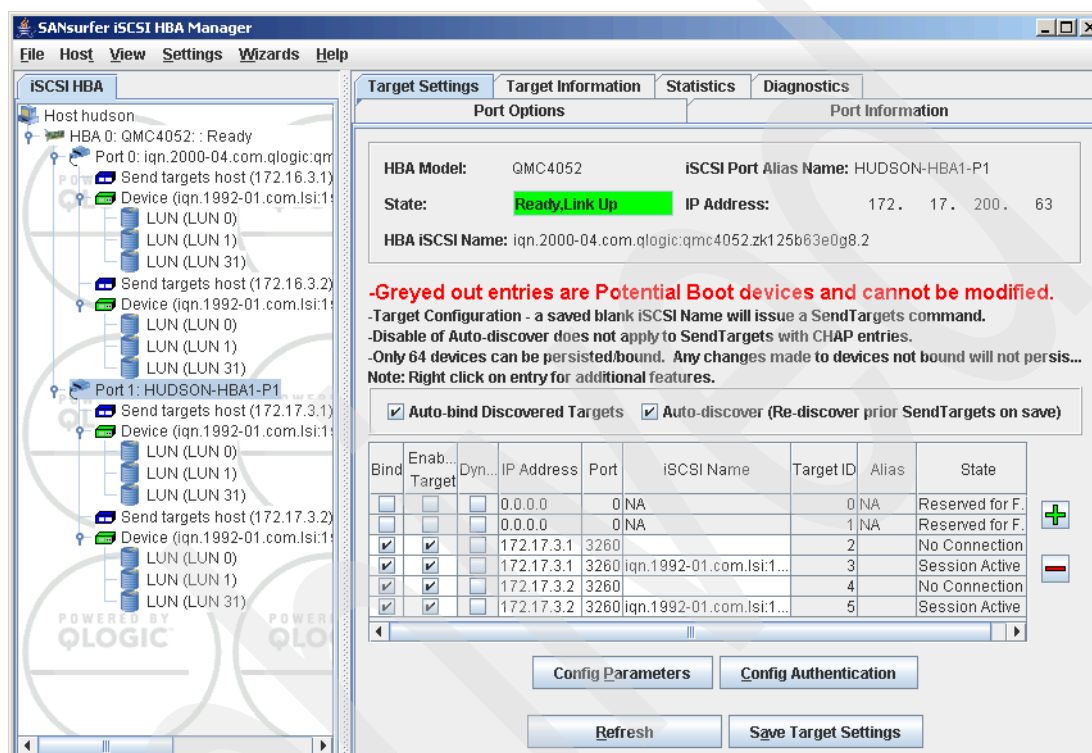

Figure 21-52 SANsurfer - targets discovered
10. After adding all the iSCSI portal IP addresses to the iSCSI initiator ports, the configuration should look like Figure 21-52.